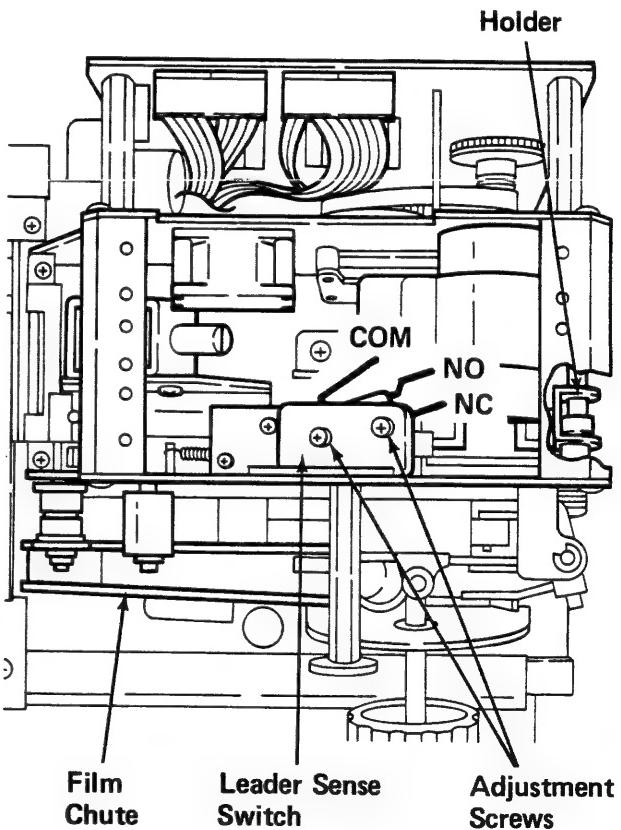

Figure 3-10.7A
8. Connect the Black Lead of a Voltmeter to the Common Terminal (left) of the Leader Sense Switch (S8). See Figure 3-10.7A.
9. Connect the Red Lead of a Voltmeter to the Normally Open Terminal (middle) of the Leader Sense Switch (S8). See Figure 3-10.7A.
1. Loosen the Adjustment Screws (Figure 3-10.7A and adjust the Leader Sense Switch (S8) so that when the switch arm is depressed by the film leader the Voltmeter reads 0 vdc, and when the switch arm is deactivated the voltmeter reads approximately 5 vdc.